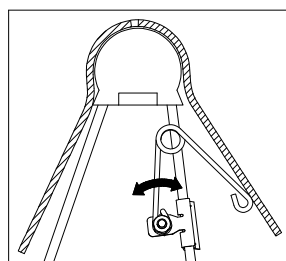

Figure E2: Cutaway view of driver side pivot arm and saddle.
2. **Set coupler angle.** Adjust the resting angle of your coupler plate by rotating the spring on the driver side pivot arm. Pulling the top of the spring away from the cab will increase the angle of the coupler plate. Set the angle of the coupler so that head will tilt away from the cab when coupling, see Figure E2. Tighten the 1/4" nut once the springs orientation is set.